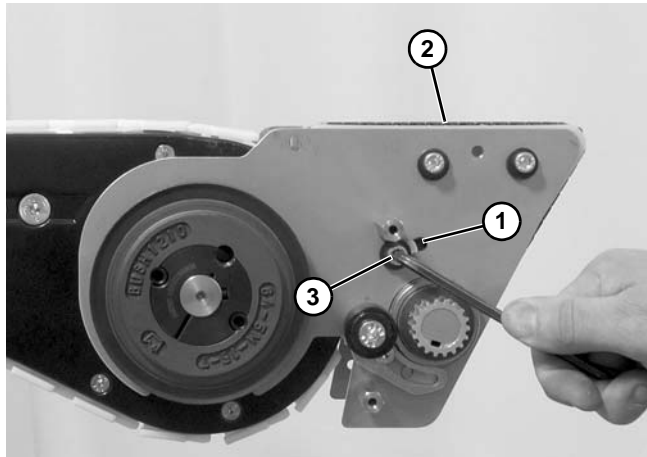

Figure 177
- Slide idler assembly within slot (**Figure 177, item 1**) only enough to remove excess slack from belt (**Figure 177, item 2**). Tighten socket head screws (**Figure 177, item 3**).